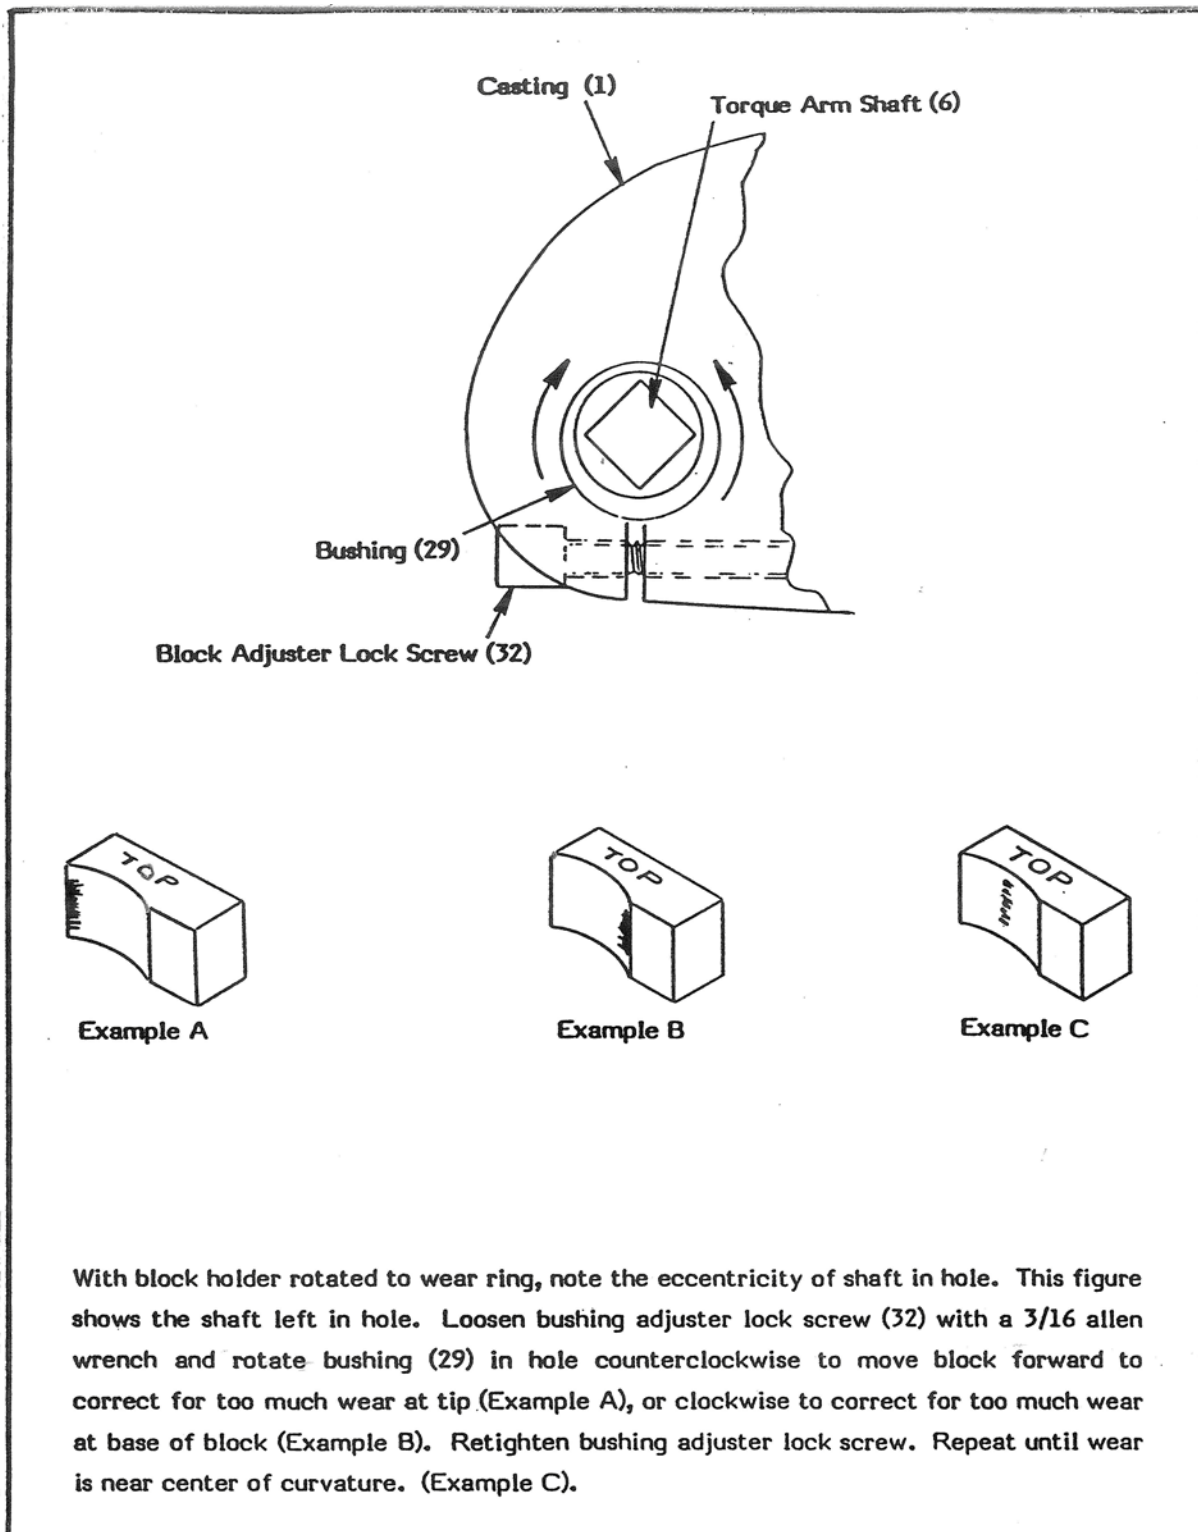

Figure 4 – Adjustment for Curvature of Lubricity Test Block
If the coefficient of friction value for water is not in the proper range, is drifting excessively, or has scoured surfaces, the ring and block surfaces must be reconditioned or standardized. If a block is standardized, it will have a substantial portion (at least 1/3) of its curved surface worn to a shined condition with a minimum of groove lines through this polished area, as seen in Fig. 4, Ex. C. Also, a ring-block calibration data sheet should be filled out and maintained for the pair. When the ring and block are engaged in the following procedures, no new wear surfaces should appear and no unexpected results occur using the pair.
5.2.2.1 Check to ensure all surfaces are clean and that the wear surface is in the middle or just forward of the curvature on the block (Refer to Fig. 4 Ex. C). If an adjustment is required, follow the procedure given in Fig. 4.